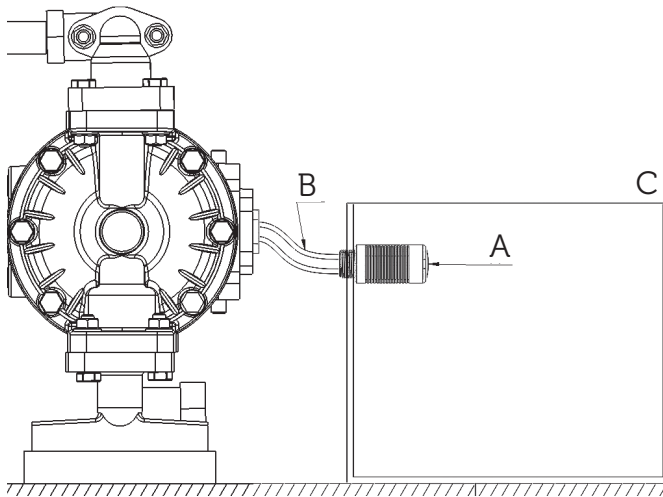

FIGURE 3
- Carry air outlet to a safe environment using a pipe. Thus, possible accidents caused by discharge of combustible materials in case of diaphragm bursts can be prevented. (See Figure 3)
- The air outlet shall be installed so that the exhaust air is collected in a vessel by considering the risk of diaphragm bursts if the pump is used for harmful fluid transfer You can see this in **Figure 3**.